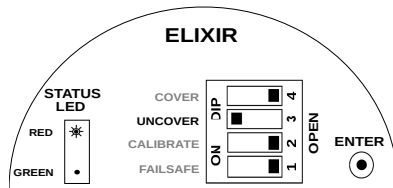

Figure 23: Uncover Delay Switch Position
2. Set the UNCOVER switch to CLOSE (Opposite of OPEN in a DIP switch) position as shown in Figure 23.